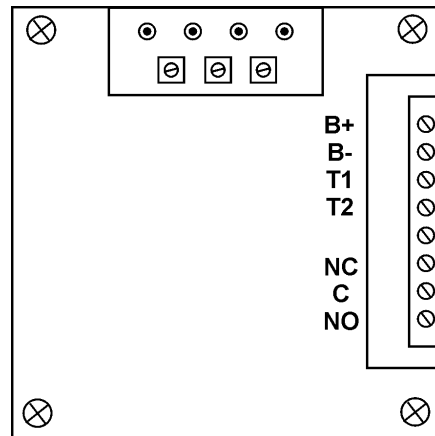

Figure 5. Rear Connections to the LVD400/600.
- 12.1 The center of each back panel has connections to the Form C relay contacts for connection to external audible or visual alarm circuits. See Figure 5.